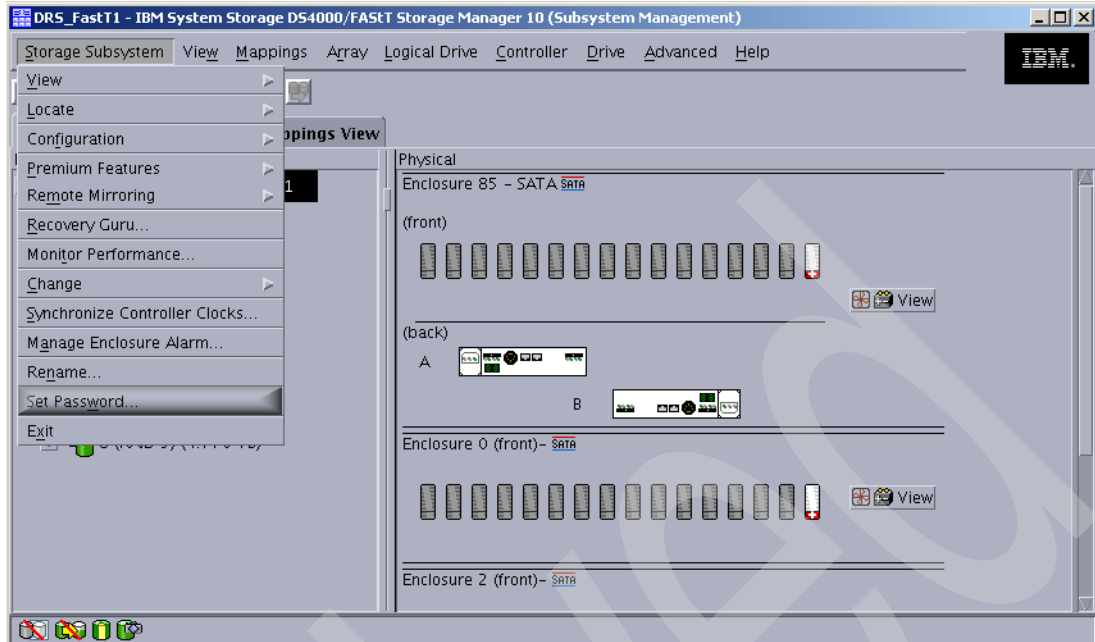

Figure 3-16 Change of the SMclient password
6. Go to the menu bar and change the password by selecting **Storage Subsystem** → **Set Password**. (See Figure 3-16 on page 135.)